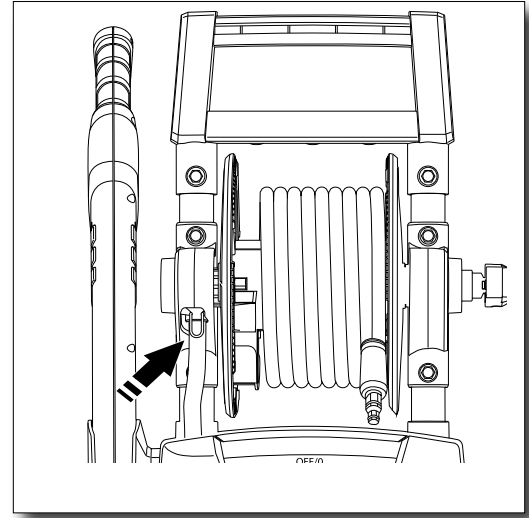

Fig. 5
- High pressure hose is fitted to the hose reel and ready to use, it only needs to be attached to the spray gun **(Fig. 5)**.